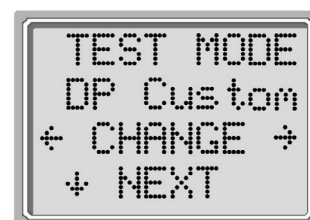

Figure 35
3. The next display you see is TEST MODE (figure 35). Use the LEFT or RIGHT arrow keys to select **DP Custom**.